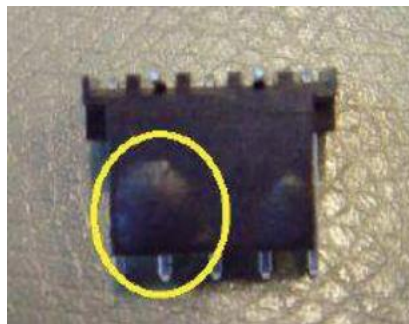

Figure 2
- Replaced trademark with PTFE in Figure 2
When exposed to atmospheric environments for prolonged periods of time, deformation of the plastic during soldering is possible. To prevent plastic deformation, bake in oven at 85°C for 4 hours prior to soldering. Deformation in the mating area is not detrimental to product performance. See Figure 2 for image of allowable deformation.